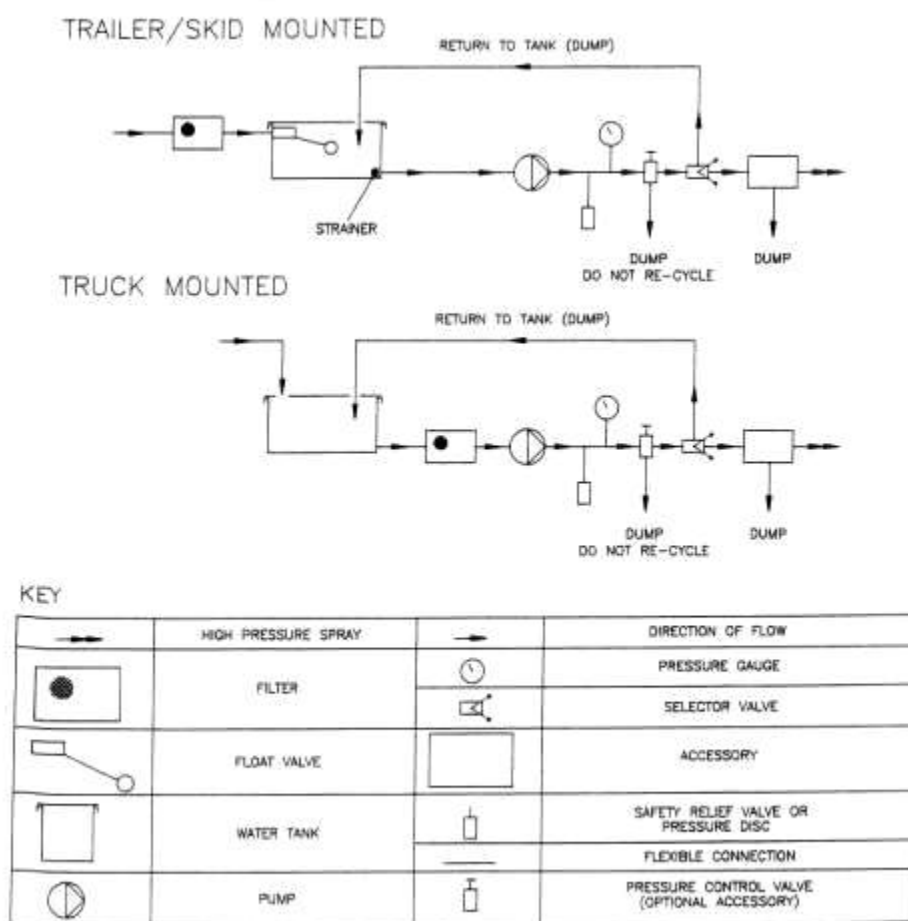

Fig 2.1 Pump Installation – Water Circuit Layout
2. The illustration given in Fig 2.1 Century Series pump.